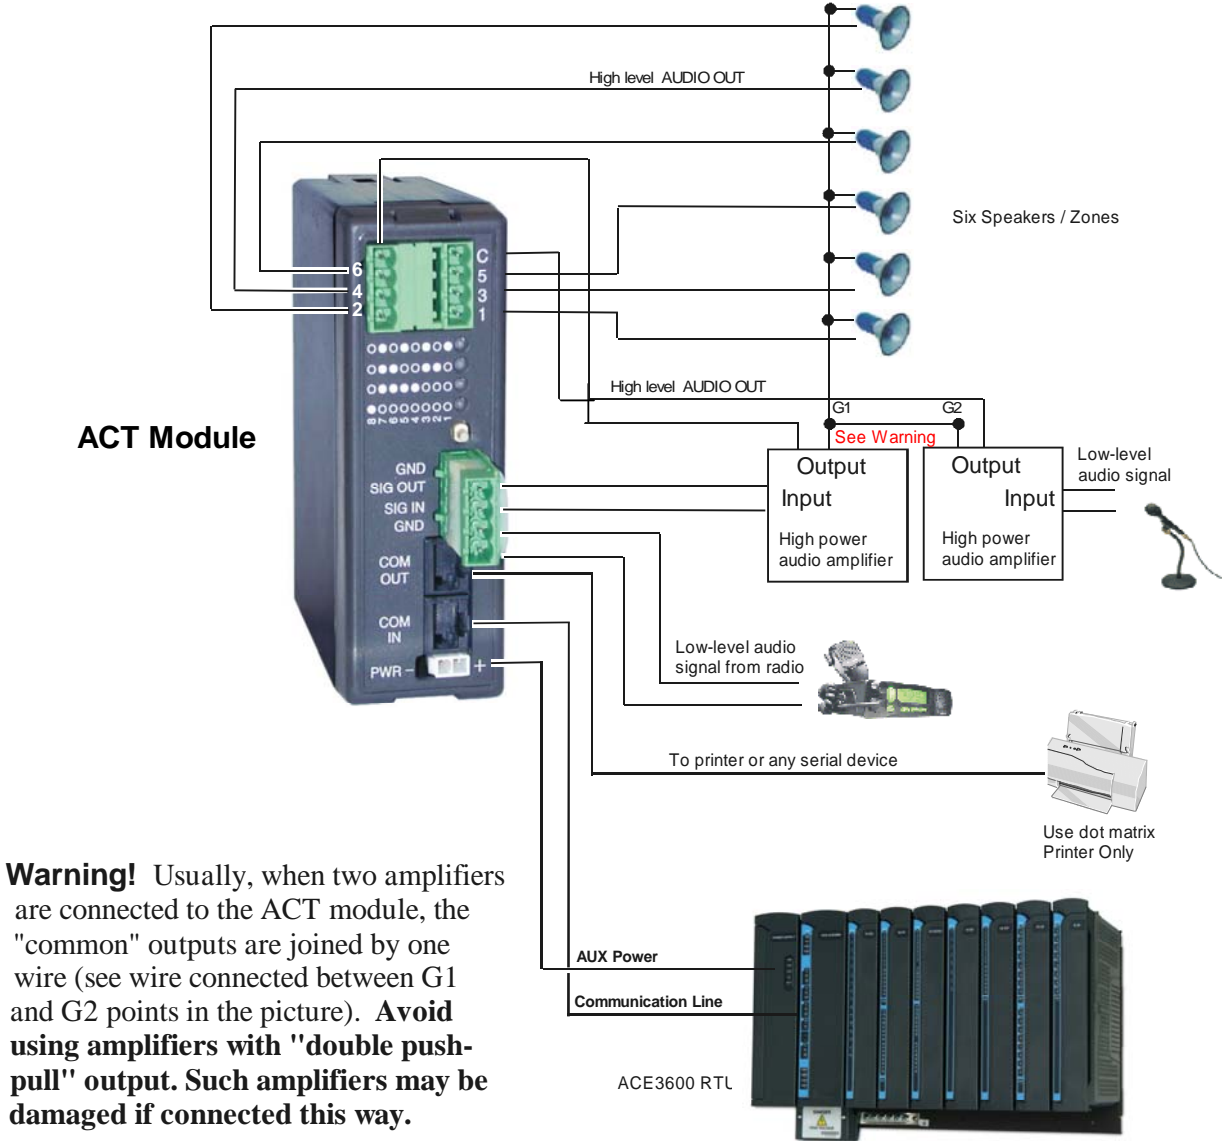

Figure 15-3 ACT Module – Wiring Diagram
- 4) To use high-level audio speakers, connect up to six speakers to the High-Level Audio Out (1-6) relays on the top of the ACT module front panel. See Figure 15-3 below.
- 5) To enable playing prerecorded tones, connect the input of the first high power audio amplifier to the SIG OUT/GND connectors, using the Isolation Board (FCN6294A). Connect the output of the amplifier to the Normally Open connector on the top left corner of the ACT module front panel. See Figure 15-3 below.
- 6) To enable radio voice channel audio (low level signal), connect the external speaker of the voice radio to the SIG IN/GND connectors, using a simple wire cable (can be shielded). See Figure 15-3 below.
- 7) To add a second high power audio amplifier for local microphone, connect the output of the second amplifier Normally Closed (C) connector on the top of the ACT module front panel. Also connect the output of the second amplifier to the output of the first amplifier. See the warning in Figure 15-3 below.
- 9) To attach a dot matrix printer or other serial device, connect the device to the COM OUT connector on the ACT module using a data cable (with connector adaptors as necessary.) See Figure 15-3 below.